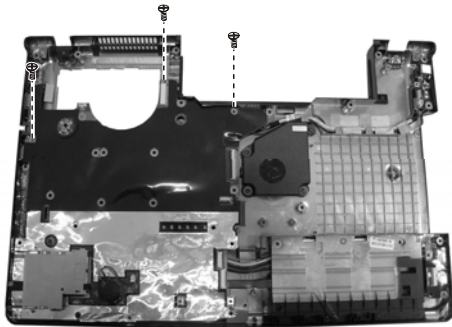

Figure 2-24 Remove five screws
2. Remove three screws fastening the system board. (Figure 2-24)